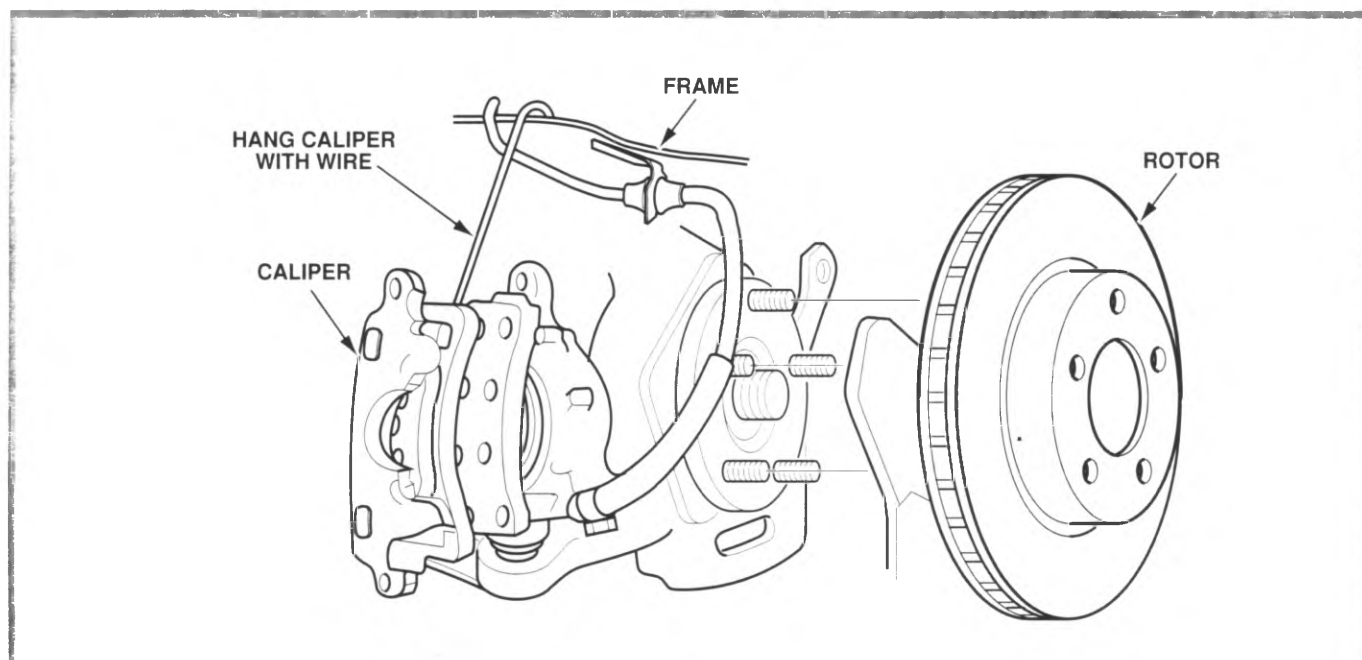

Figure 6-20, Replacing Disc Brake Rotor (4WD)
2. Remove the caliper mounting bolts, then lift the caliper from the mounting with the brake hose attached and suspend it from the chassis using a piece of wire (figure 6-20).